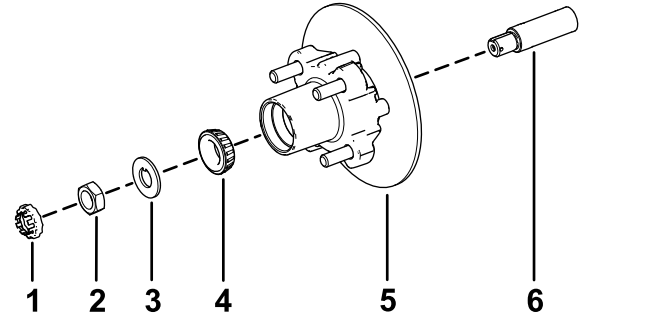

Figure 36
1. Apply a light coat of the specified grease to the spindle (Figure 36).
2. Assemble the hub and rotor onto the spindle with the rotor inboard (Figure 36).
3. Assemble the outboard bearing onto the spindle and seat the bearing to the outboard race (Figure 36).
4. Assemble the tab washer onto the spindle (Figure 36).
5. Thread the spindle nut onto the spindle and tighten the nut to 15 N·m (11 ft-lb), while rotating the hub to seat the bearing (Figure 36).
2. Align the brake pads to either side of the rotor (Figure 32) and the holes in the caliper bracket with the holes in the brake mount of the spindle frame (Figure 36).